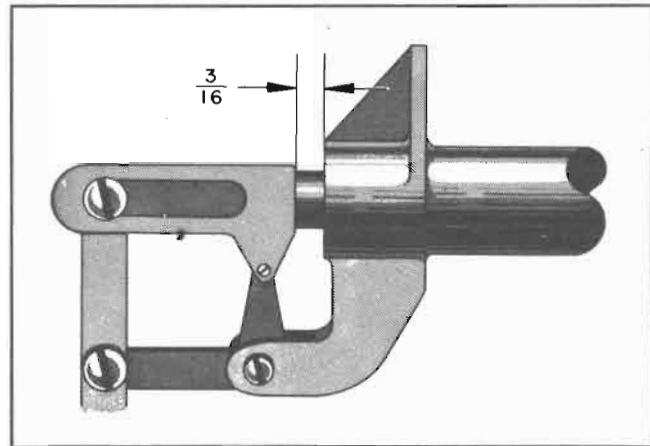

Figure 114 — Lockpin Push Rod Adjustment
3. Obtain a distance of  $10\frac{7}{8}$  inches between the attachment point centers of the left outboard control rod at the lockpin. (See figure 114.)
5. Adjust the right outboard control rod (figure 114) at the lockpin to  $11\frac{1}{8}$  inches, from the center rod at the end fitting hole to the center of the other